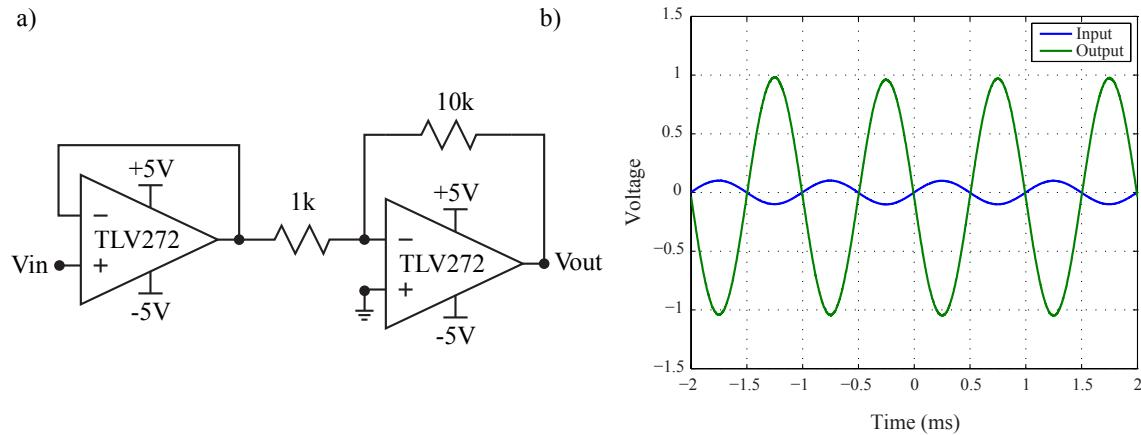

Figure 5.6: Schematic for the demo circuit, a voltage follower followed by an inverting amplifier with a gain of 10 (a) and the resulting output (b)
1. Using only one of the TLV272 op amp in your lab parts kit, build the circuit in Figure 5.6 (a) on a breadboard. Set the voltage supplies to +/- 5 V and scope channel 1 to Vin and scope channel 2 to Vout. Configure the Wavegen to supply a 1 kHz sine wave with a 0.1 V amplitude.